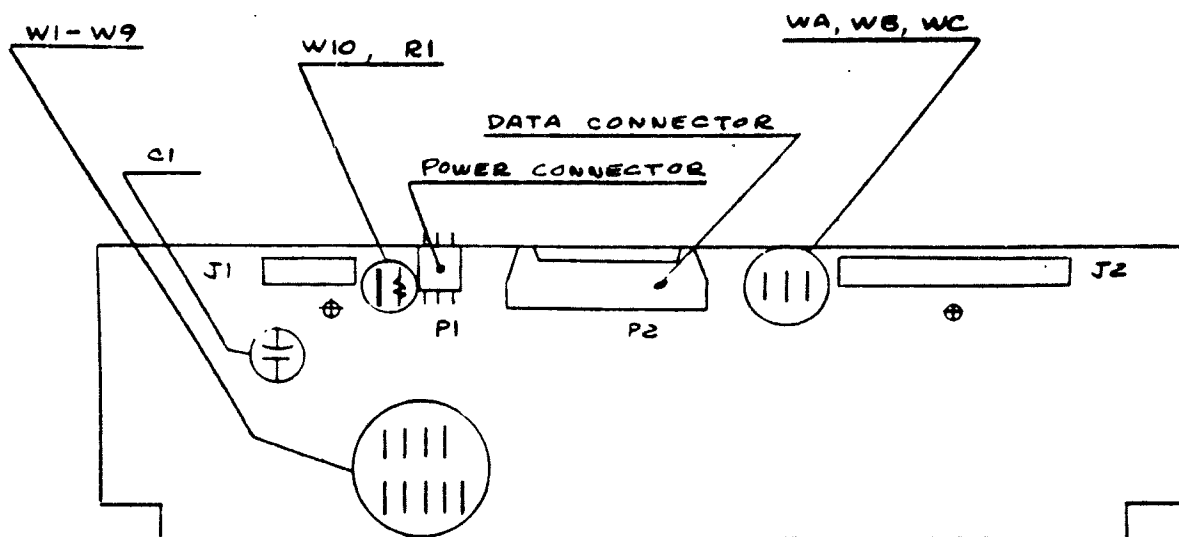

FIGURE 2
When communicating with the display by means of the 20 mA current loop, it is necessary to enable the loop input by installing jumper W10. (See Figure 2.) Inserting this jumper simultaneously disables the RS-232C input.
Refer to Figure 2 to locate the Power Input Connector P1, and the Data Connector P2. Note that the main display assembly connectors, also P1 and P2, are mated with the interconnection sockets J1 and J2 respectively on the WOE0-~~0001~~ option assembly, and that the user makes no further connections there. All user connections are made to the WOE0-~~0001~~ (upper) circuit board assembly connectors, P1, P2.
Refer to Figure 2 to locate the Power Input Connector P1, and the Data Connector P2. Note that the main display assembly connectors, also P1 and P2, are mated with the interconnection sockets J1 and J2 respectively on the WOE0-0002 option assembly, and that the user makes no further connections there. All user connections are made to the WOE0-0002 (upper) circuit board assembly connectors, P1, P2.
- 1) INSTALL JUMPER W10 TO ENABLE 20 mA LOOP INPUT (SEE FIG. 2)